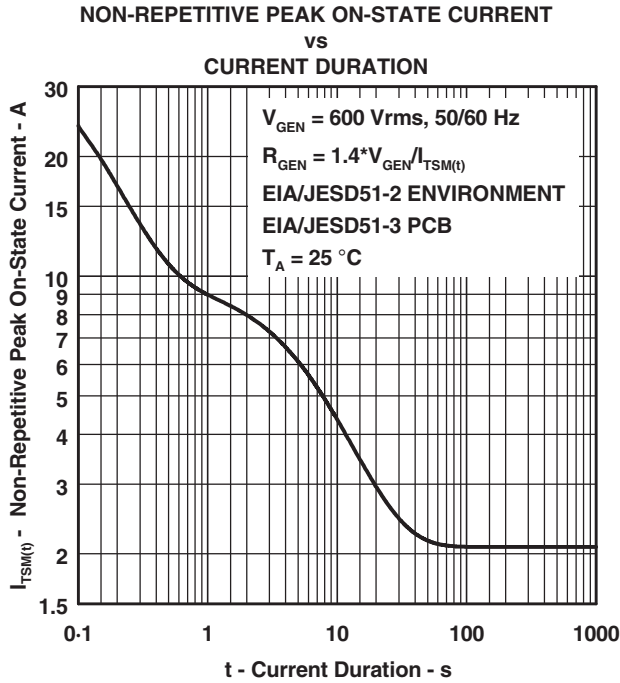

Figure 8.
5. EIA/JESD51-2 environment and EIA/JESD51-3 PCB with standard footprint dimensions connected with 5 A rated printed wiring track widths. See Figure 8 for the current ratings at other durations. Derate current values at  $-0.61\%/^\circ\text{C}$  for ambient temperatures above  $25^\circ\text{C}$
The protector can withstand currents applied for times not exceeding those shown in Figure 8. Currents that exceed these times must be terminated or reduced to avoid protector failure. Fuses, PTC (Positive Temperature Coefficient) resistors and fusible resistors are overcurrent protection devices which can be used to reduce the current flow. Protective fuses may range from a few hundred milliamperes to one ampere. In some cases, it may be necessary to add some extra series resistance to prevent the fuse from opening during impulse testing. The current versus time characteristic of the overcurrent protector must be below the line shown in Figure 8. In some cases there may be a further time limit imposed by the test standard (e.g. UL 1459 wiring simulator failure).